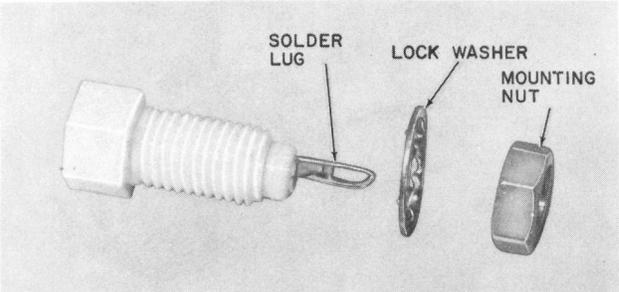

Fig. 21—20667-L1 Pin Jack
4.03 To replace the KS-20667, L1 pin jack shown in Figure 21, determine the type of test/talk panel and refer to the appropriate paragraph, 3.02 through 3.06, to determine the means of accessing the internal components. Steps for removal of the pin jack follows: